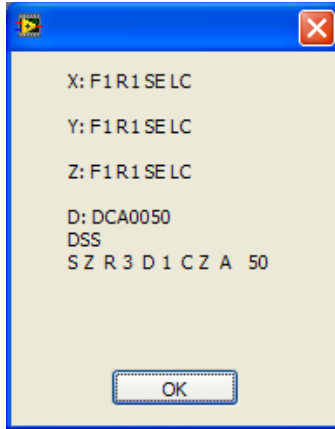

Figure 4. Communication Status Report.
3. Once authenticated, the Communication Status dialog box apprises the user of the status of the SQUIDS and degausser controller (**Figure 4**). If any of the information is blank, notify the paleomagnetism technician.